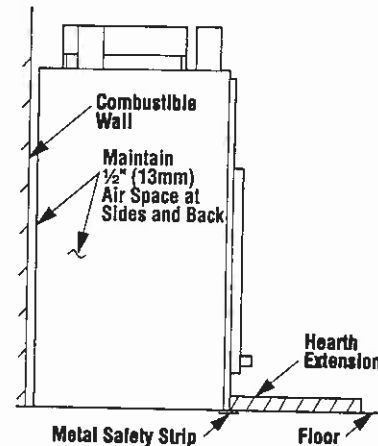

Figure 6
**Step 2.** Insert the provided metal safety strips, beneath the fireplace as illustrated (Figures 6, 7 and 8). The safety strips should overlap ½" for continual coverage of the floor.